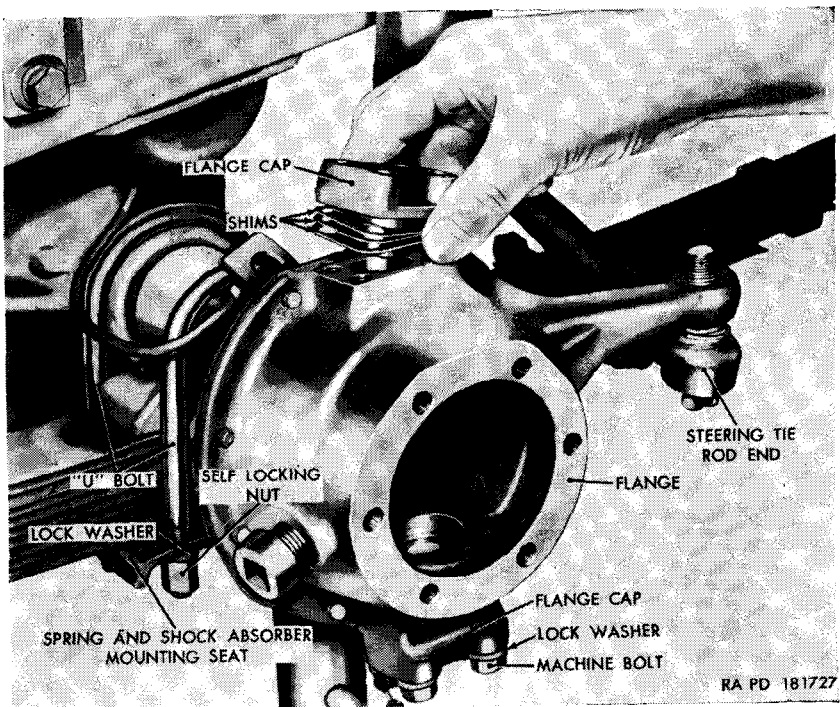
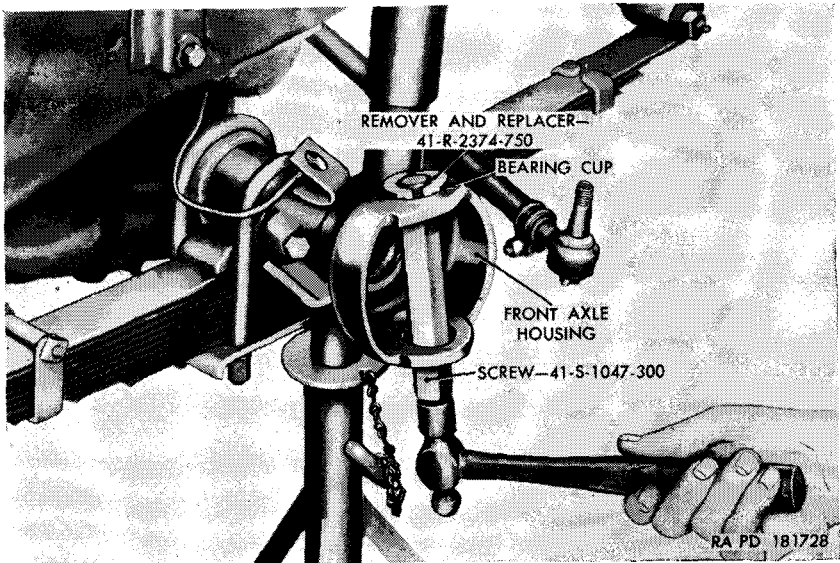

Figure 105. Removing steering knuckle flange cap from steering knuckle flange with arm assembly.
Figure 106. Removing steering knuckle flange cap bearing cup from front axle housing with remover and replacer 41-R-2374-750 and screw 41-S-1047-300.
- (5) Remove the two remaining bolts and lockwashers securing the steering knuckle flange cap in position and pry the cap and shims (fig. 105) out of the steering knuckle flange.
- (6) Remove the four bolts and lockwashers securing the (lower) steering knuckle flange cap in position and pry the cap out of the steering knuckle flange (fig. 105).
- (7) Remove the steering knuckle flange oil seal assembly (par. 229a).
- (8) Pull the steering knuckle flange off the front axle housing and steering tie rod end.
- (9) Lift one steering knuckle flange cap bearing cone out of the steering knuckle flange and the other cone out of the front axle housing.
- (10) Position the remover and replacer 41-R-2374-750 and screw 41-S-1047-300 (fig. 106) in the front axle housing and drive the steering knuckle flange cap bearing cup out of the housing. Remove the lower steering knuckle flange cap bearing cup in the same manner.
- (1) Position a steering knuckle flange cap bearing cup in upper section of the front axle housing with the small end of the bearing taper facing down. Place the remover and replacer 41-R-2374-750 (fig. 106) in the bearing cup. Install the screw 41-S-1047-300 (fig. 106) in the remover and replacer and drive the bearing cup into the housing until upper edge of cup is flush with housing.
- (2) Position a steering knuckle flange cap bearing cup in the lower section of front axle housing with small end of bearing taper facing up. Place the remover and replacer 41-R-2374-750 (fig. 106) in the cup. Install the screw 41-S-1047-300 (fig. 106) in the remover and replacer and drive the cup into the housing until the upper edge of the cup is flush with the housing.
- (4) Insert one steering knuckle flange cap up through the lower section of the steering knuckle flange (fig. 105). Secure the cap to the flange with four  $\frac{3}{8}$ -inch lockwashers and  $\frac{3}{8}$  x  $1\frac{1}{2}$  bolts.
- (5) Insert a steering knuckle flange cap and shims (fig. 105) into the upper section of the steering knuckle flange. Secure the cap to the flange with two  $\frac{3}{8}$ -inch lockwashers and  $\frac{3}{8}$  x  $1\frac{5}{8}$  bolts, in the two outside holes. The thickness of shims must be adjusted until vertical movement of the flange is eliminated and there is only slight drag when the flange is turned.
Place the spring and shock absorber mounting seat (fig. 105) over the ends of the **U**-bolts with the free end of the shaft of the mounting seat forward and pointing outward. Secure with four  $\frac{7}{16}$ -inch lockwashers and **U**-bolt nuts. Repeat the procedure on the other side of the vehicle.